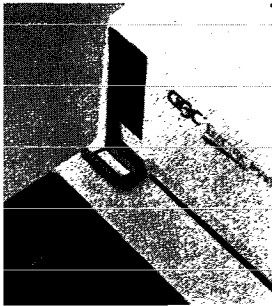

Figure 4.3
5. The color code revealed in step 4 will also indicate the recommended distance from the edge of the paper to the punched hole. Simply note the "Color" zone at the top edge of the slide and move the Depth of Punch Tab in or out to the color indicated (Figure 4.3).